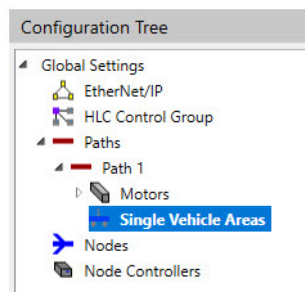

Figure 4-128: Configuration Tree with Single Vehicle Areas Selected
3. In the Configuration Tree, select **Single Vehicle Areas**, see Figure 4-128.